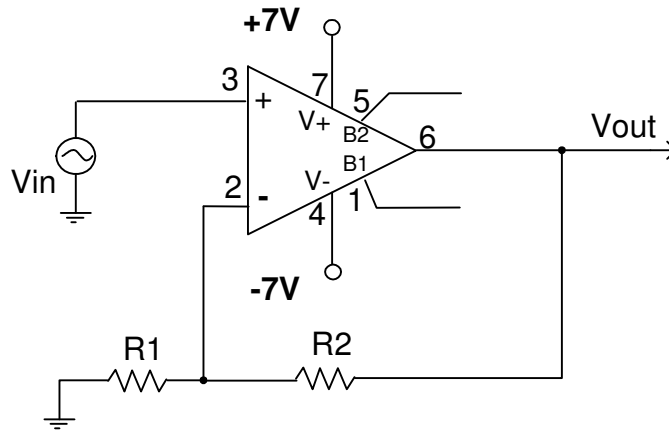

Fig. 5: Non inverting Amplifier configuration.
Assuming a finite GBW of ω_t , frequency dependant gain of the non inverting amplifier shown in Fig. 5 is given by,
7. Consider a non inverting amplifier shown in Fig. 5. Assuming $R_1=1K$, find the value of the resistor R_2 to get an amplifier with a DC gain of 101. Verify your design with Pspice AC simulations. You might ask your TA if you are not familiar with performing AC simulations using Pspice. What is the simulated -3 dB bandwidth of the amplifier? Repeat the Pspice AC simulations when the value of R_2 is adjusted to obtain a gain of 51 and 201.